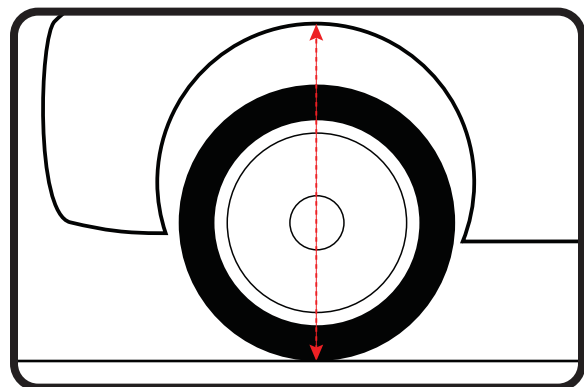

Figure 3
Before the upper spring mount can be installed screw the adjuster knob on the upper eye mount to the firmest setting (clockwise) as seen in figure 3. Then remove the Knob by holding it while removing the center screw.
3. Using a spanner wrench (Figure 3), apply preload by threading the adjustment nut up the shock an additional 1/2" from the measurement you took in Step 2. This is your initial preload setting.
3. Lift the vehicle by the frame until the wheel is barely touching the ground. Take another measurement from the fender lip to the ground (Figure 3).